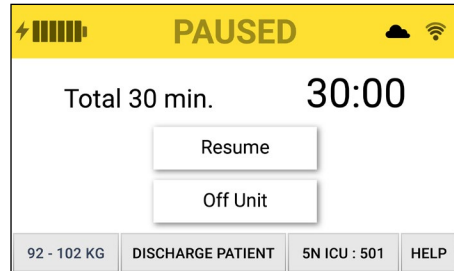

Figure 10. Paused screen (standard)
2. A Paused screen will display with a yellow status bar and remaining pause time displayed on the right side of the screen. (Fig. 10 & 11)